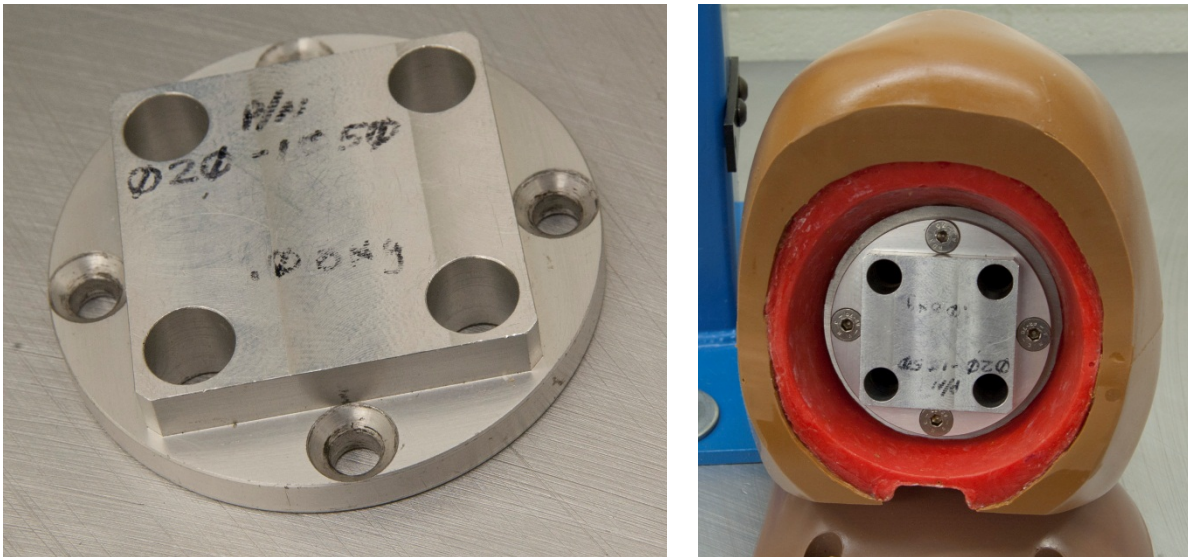

Figure 1. Half mass upper neck load cell simulator (left) installed for head qualification test (right)
- Install the half mass (0.075 kg) simulated upper neck load cell using four (4) M5 x 12 FHCS (Figure 1).